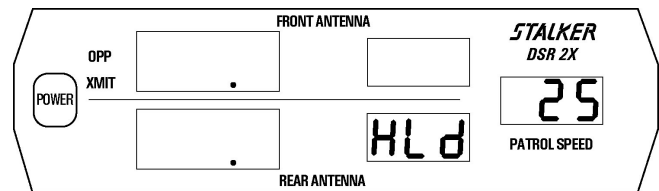
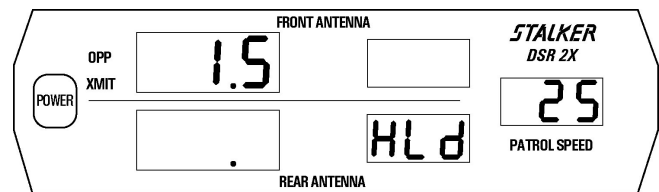

Fig. 55
Fig. 56
To perform the tuning fork test on the front antenna: press the **PWR** key, press the **MOV/STA** key and select moving mode, press the front **OPP** key to enter transmit mode. Place the rear antenna in **HLd**. Press and hold the TEST key and wait for the tuning fork mode following the internal test sequence. Strike the 25 mph tuning fork against a hard nonmetallic surface, such as the heel of a shoe. Quickly hold the tuning fork approximately two (2) inches in front of the active antenna, with the narrow edge of the fork facing the antenna. The patrol window should indicate  $25 \pm 1$  mph (40 kph) (Fig. 55). Then move the higher speed fork in front of the antenna with the narrow edge facing the antenna. The target window should register  $15 \text{ mph} \pm 2 \text{ mph}$  (24kph) (Fig. 56), which is the difference in speed of the two forks.